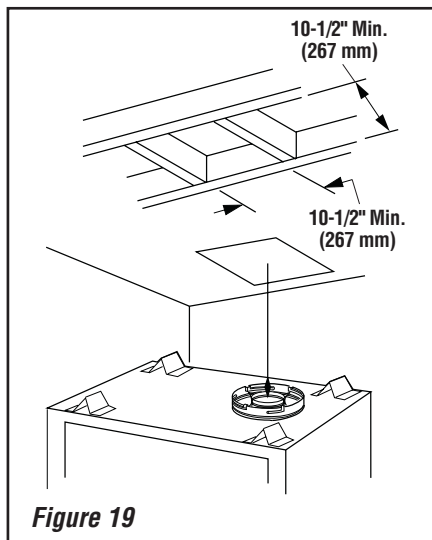

Figure 19
A. Frame ceiling opening - Use a plumb line from the ceiling above the appliance to locate center of the vertical run. Cut and/or frame an opening, 10-1/2" x 10-1/2" (267mm x 267mm) inside dimensions, about this center mark (**Figure 19**).